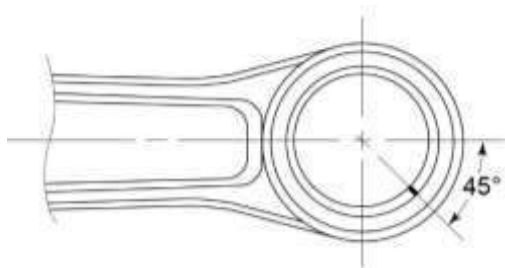

Figure 35
- F. Make sure the split in the bushing is located so that it is toward the piston end of the connecting rod and 45° off the centerline (Figure 35) and press the bushing into the connecting rod until the edge of the bushing is flush with the surface of the connecting rod.